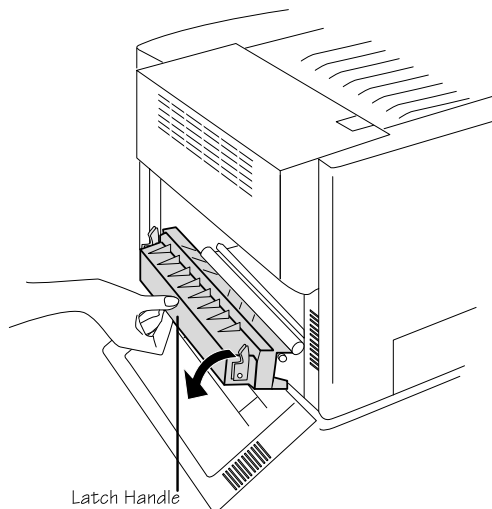

Fig. 9.9 *Open the Transfer Unit*
1. Open the back cover by pressing the top-right corner to release the spring latch (fig. 9.9).
2. Open the transfer unit by grasping the green handle in the center and pulling it toward you and down (fig. 9.9).